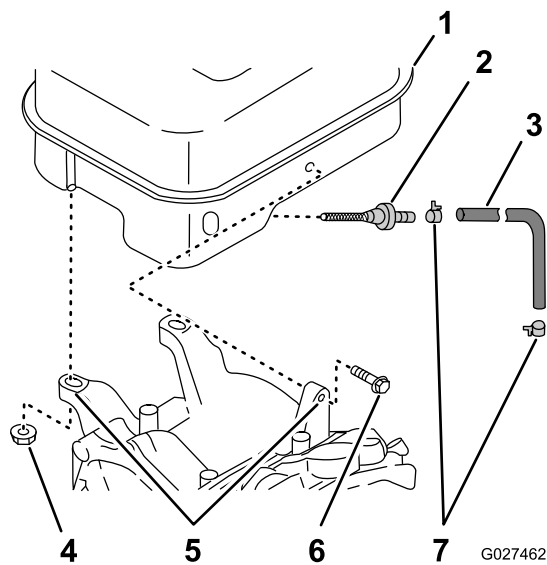
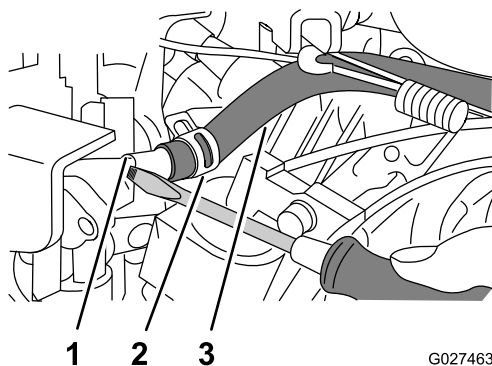
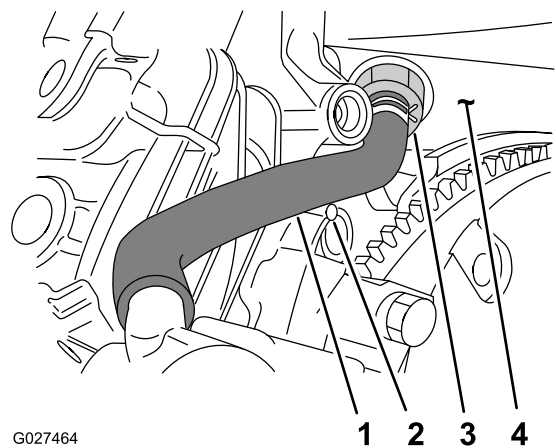

Figure 67
Figure 68
Figure 69
5. Remove the 2 bolts 6 x 25 mm and 2 nuts 8 mm that secure the fuel tank to the tank supports (Figure 67).
- Loosen the hose clamp and disconnect fuel hose from the fitting on the carburetor (Figure 68).
- Remove the fuel tank from the crankcase of the engine (Figure 67 and Figure 69).
- Loosen the hose clamp and disconnect fuel hose from the fitting at the fuel strainer (Figure 67).
- Rotate the fuel strainer counterclockwise and remove it from the fuel tank (Figure 67).
- Thread the fuel strainer into the fuel tank (Figure 67).
- Align the fuel hose that you removed in step 1 over the fitting on the fuel strainer (Figure 67 and Figure 69).
- Secure the hose to the strainer fitting with the clamp (Figure 67 and Figure 69).
- Align the fuel tank to the tank supports on the engine (Figure 67).
- Align the fuel hose that you removed in step 6 of Removing the Fuel Tank \(page 55\) to the fitting on the carburetor (Figure 68 and Figure 69).
- Secure the hose to the carburetor fitting with the clamp (Figure 68).
- Assemble the tank to the tank supports on the engine with the 2 bolts 6 x 25 mm and 2 nuts 8 mm (Figure 67).